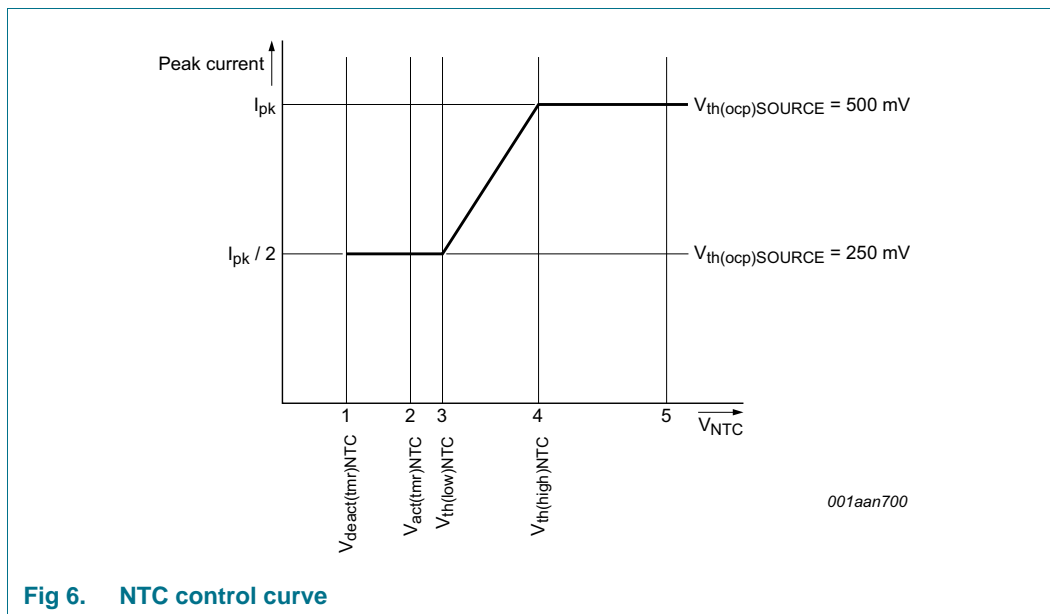

Fig 6. NTC control curve
The NTC pin can be used as a control method for LED thermal protection. Alternatively, the pin can be used as an input to disable/enable light output using a digital signal (PWM regulation). The pin has an internal current source that generates the current of $I_{offset(NTC)}$. An NTC resistor to monitor the LED temperature can be connected directly to the NTC pin. Depending on the resistance value and the corresponding voltage on the NTC pin, the converter reacts as shown in Figure 6.
When the voltage on the NTC pin exceeds $V_{th(high)NTC}$ (see Figure 6 (4)), the converter delivers nominal output current. When the voltage is lower than this level, the peak current is gradually reduced until $V_{th(low)NTC}$ is reached (see Figure 6 (3)). The peak current is now half the peak current of nominal operation. When $V_{act(tmr)NTC}$ is passed (see Figure 6 (2)), a timer starts to run to distinguish between the following situations:
- If the low-level $V_{deact(tmr)NTC}$ is not reached within time $t_{to(deact)NTC}$ (see Figure 6 (1)), LED overtemperature is detected. The IC stops switching and attempts to restart from the HV pin voltage. The converter restarts from an NTC protection shutdown when the voltage on the NTC pin exceeds $V_{th(high)NTC}$ (see Figure 6 (4)). It is assumed that the reduction in peak current does not result in a lower NTC temperature and LED OTP is activated.
- If the low-level $V_{deact(tmr)NTC}$ is reached within the time $t_{to(deact)NTC}$ (see Figure 6 (1)) it is assumed that the pin is pulled down externally. The restart function is not triggered. Instead, the output current is reduced to zero. PWM regulation and consequently output LED current regulation can be implemented this way. The output current rises again when the voltage exceeds $V_{th(low)NTC}$.
The NTC pin can be used to make a soft start function. During switch-on, the level on the NTC pin is low. By connecting a capacitor (in parallel with the NTC resistor), a time constant can be defined. The time constant causes the level on the NTC pin to increase slowly. When passing level $V_{th(low)NTC}$ (see Figure 6 (3)), the converter starts with half of the maximum current. The output current slowly increases to maximum when $V_{th(high)NTC}$ (see Figure 6 (4)) is reached.